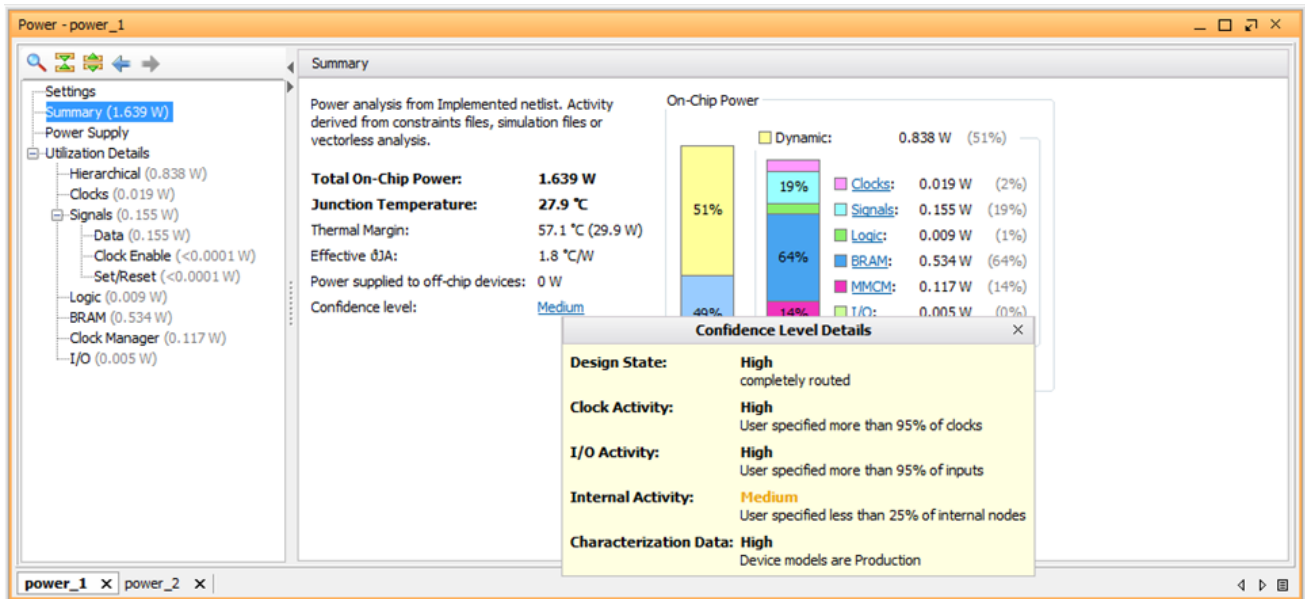

Figure 37: Confidence Level for Vectorless Power Analysis (power_1)
- In the **Summary** view of the **power_1** report (the report generated by the vectorless analysis), click on the **Confidence level (Medium in Figure 37)**.